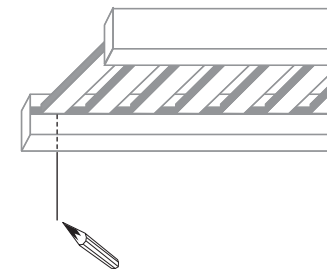

FIG. 2.0
- Mark a line on the wall at the center of the last slat location. (Fig. 2.0)